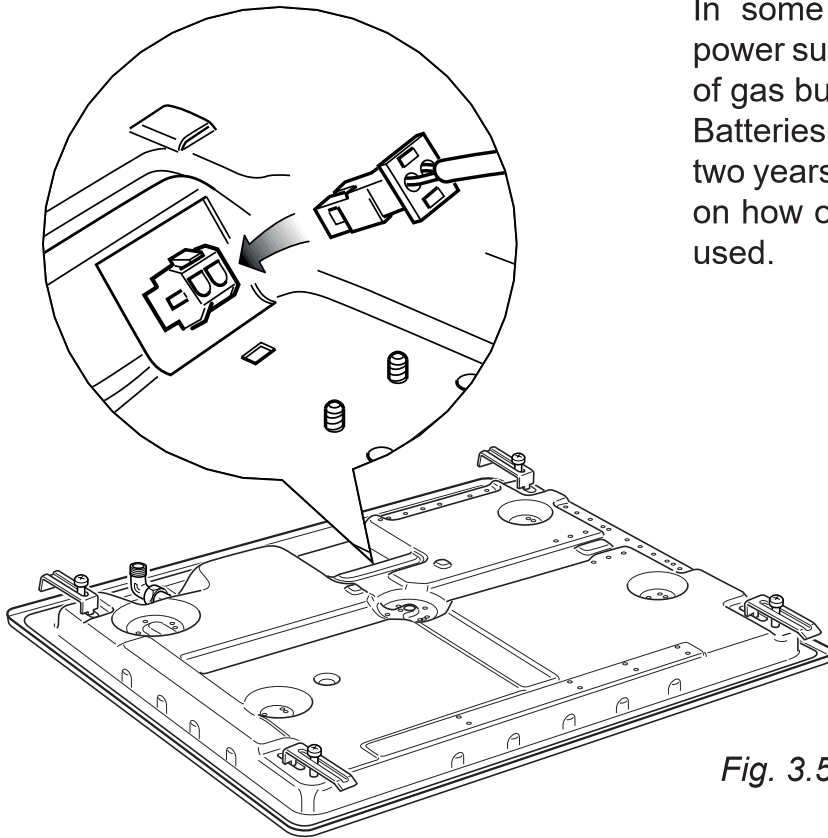

Fig. 3.5
- Connect the battery cable plug to the socket as indicated in figure 3.5.